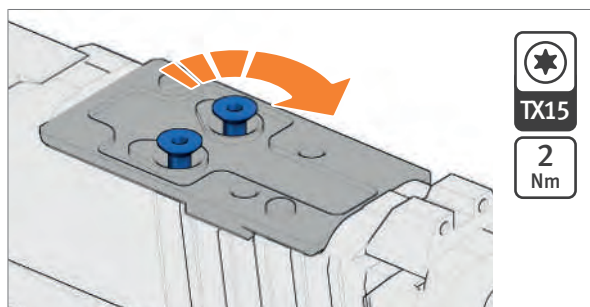

Fig. 39: Tighten screws
5. Tighten screws until the torque is reached (*Fig. 39*).